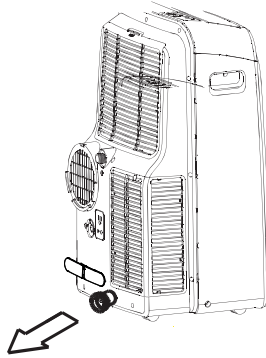

Figure 19
3. When the water level of the bottom tray reaches a predetermined level, the unit will beep 8 times and the digital display will show code P1. At this time the air conditioning/dehumidification process will immediately stop. However, the fan motor will continue to operate (this is normal). Carefully roll the unit to your designated drain location, remove the bottom drain plug and let the water drain away(Fig.19). Reinstall the bottom drain plug and restart the machine until the P1 symbol disappears. If the error repeats, call for service.